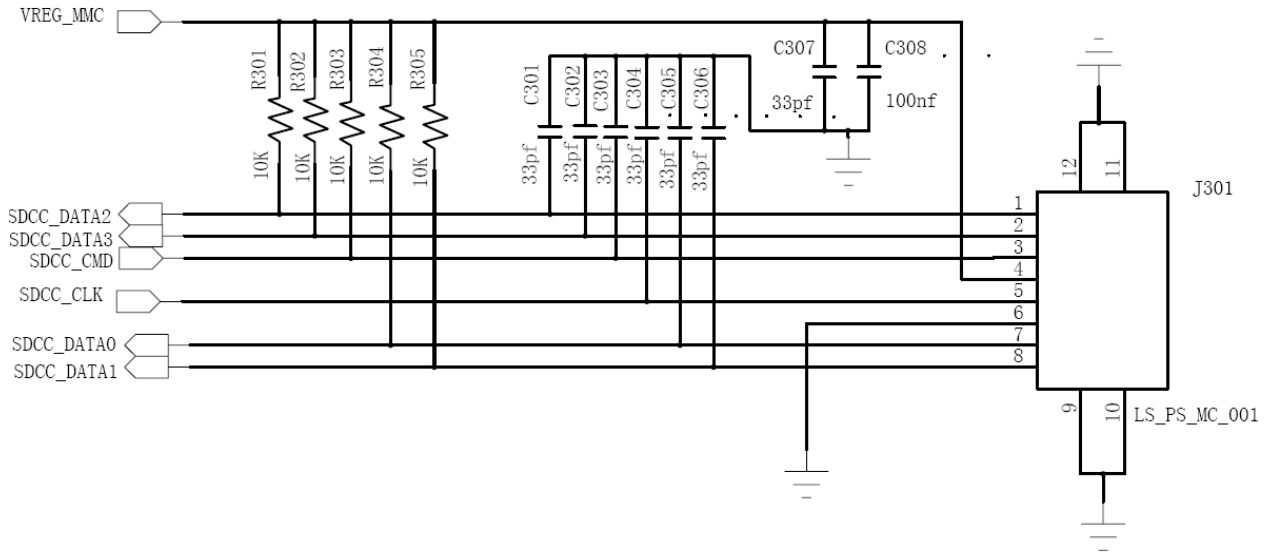

Figure 2-8 The reference circuit of Micro SD card interface
The reference circuit of Micro SD card interface is shown in Figure 2-8.
- 1) The data line of Micro SD such as SDCC_DATA0, SDCC_DATA1, SDCC_DATA2, SDCC_DATA3 and SDCC_CMD, should be connected to Micro SD card power supply by pull-up resistors with reference value 10K Ω . Just like R304, R305, R301, R302 and R303 in Figure 2-8.
- 3) To eliminate high-frequency interference, it is recommended to use capacitors for Micro SD card data line, such as SDCC_DATA0, SDCC_DATA1, SDCC_DATA2, SDCC_DATA3 and SDCC_CMD、SDCC_CLK. Just like C301, C302, C303, C304, C305 and C306 in Figure 2-8.